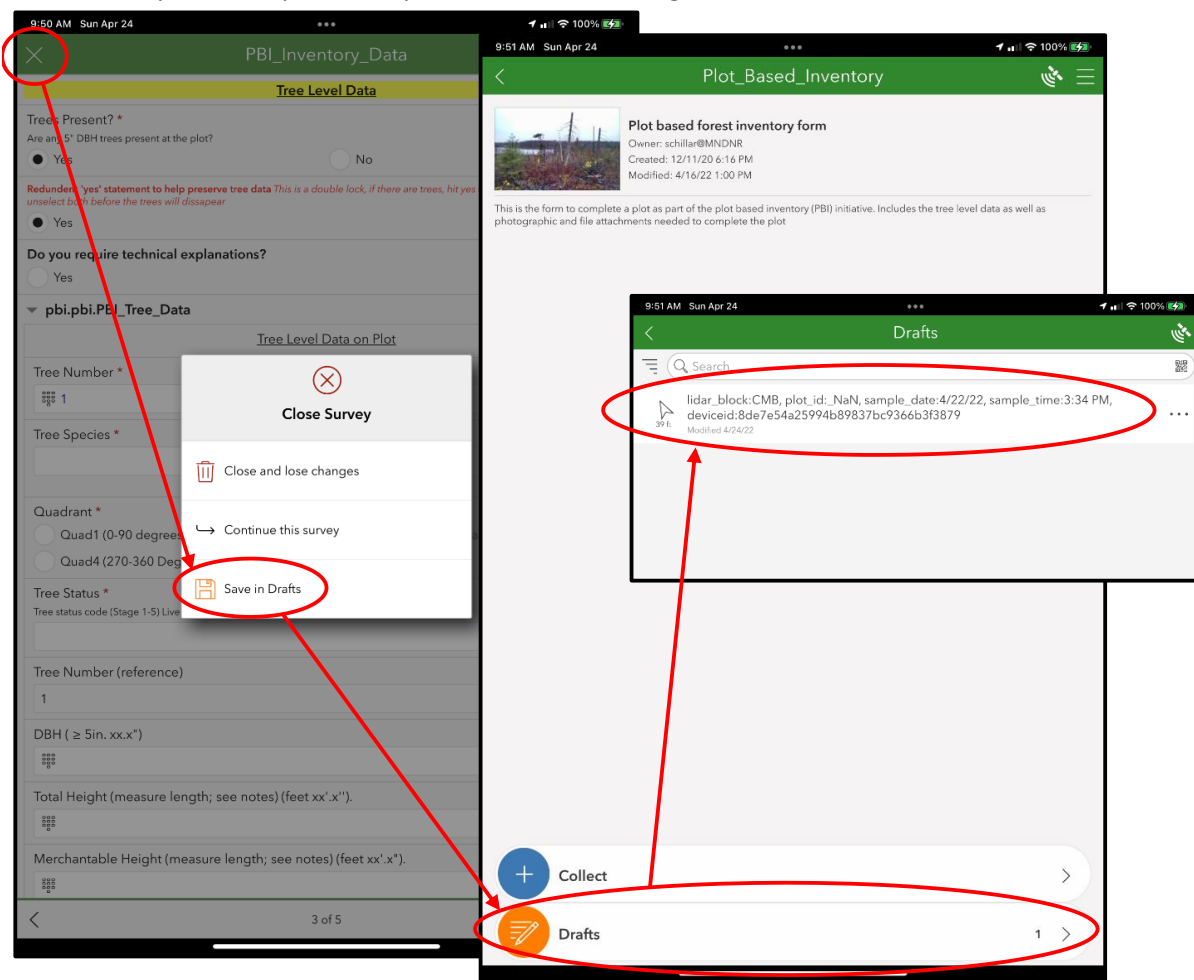

Figure 58. Workflow showing how to Save as a Draft in the survey and re-open for editing with Red Circles and Arrows showing the workflow
9. Save the Survey as a Draft by selecting the X in the upper left corner of the screen (Figure 58)